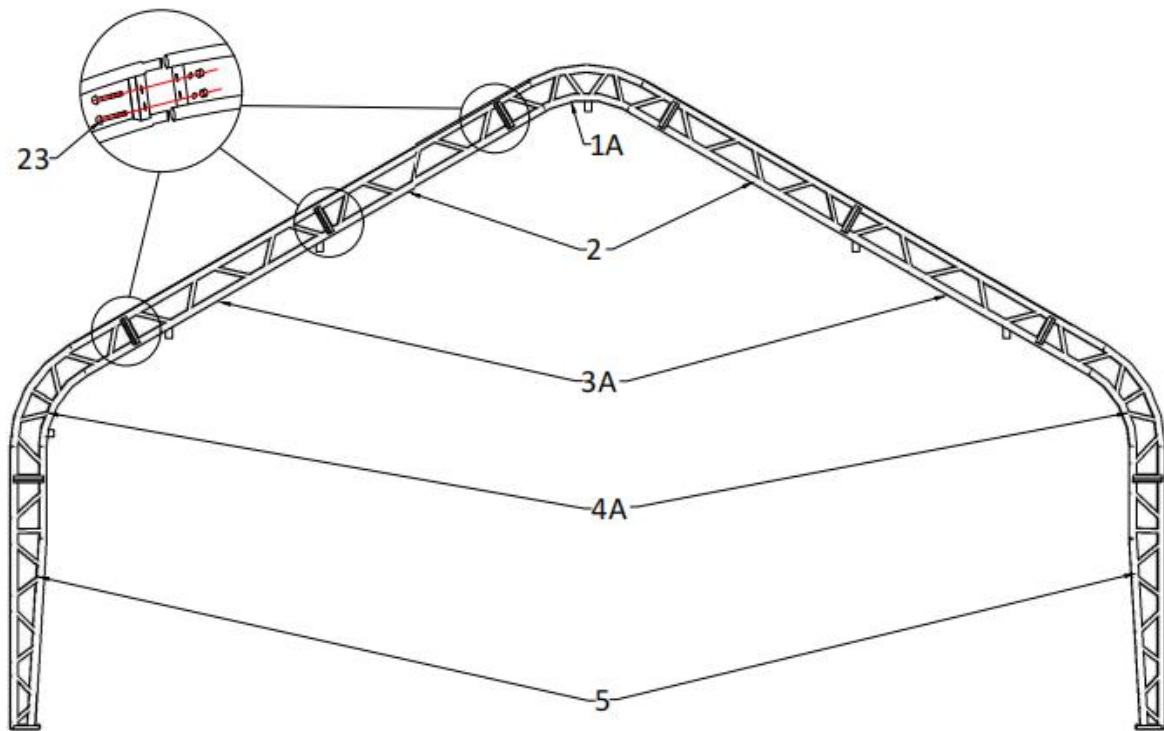

**Figure 2:Foundation placement**
Please refer to the diagram (Figure 2) to place the base plates:
2. As Figure 2 shows, each base plate is equipped with 4 pieces of stake pegs with ratchets on.(No.21) Mark the stake peg hold through the base plate by using the stake peg. Move the base plates away and the mark determines where the stake peg will be.